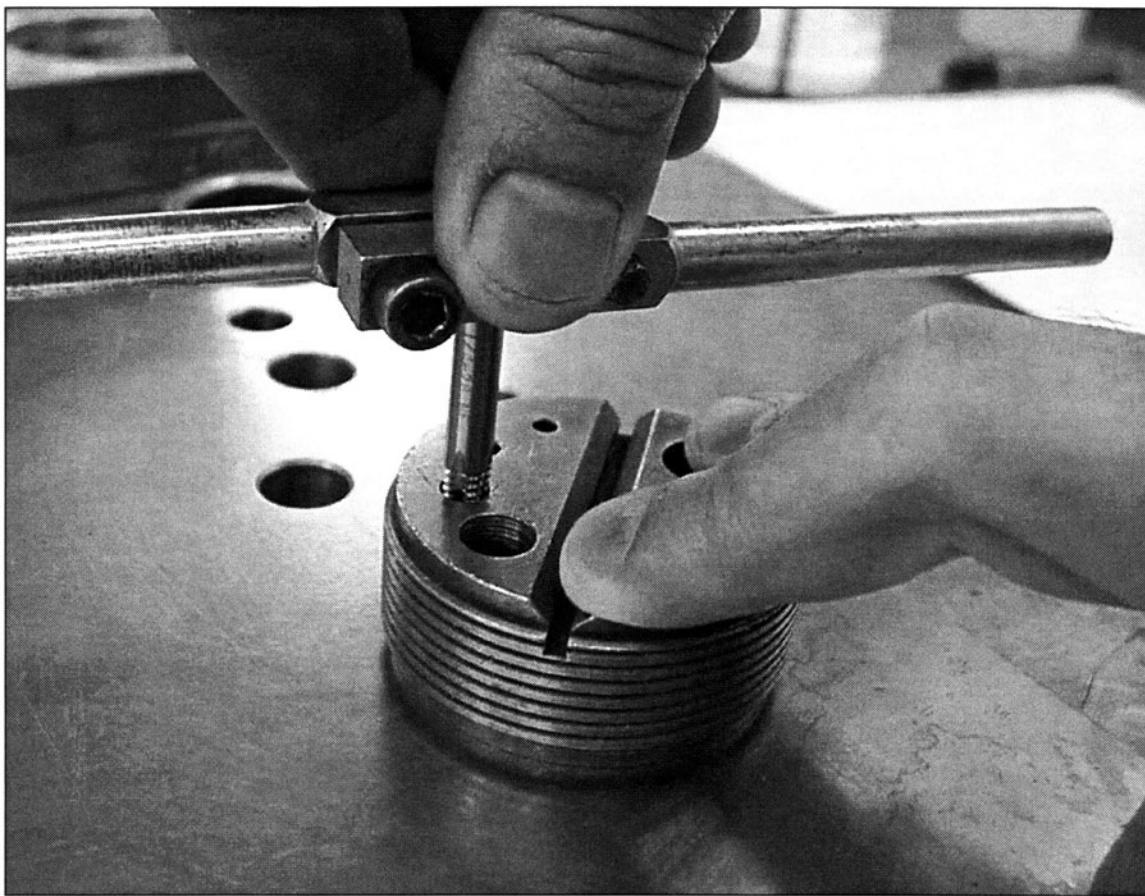

FIGURE 8-8 A tapping block is used to line up a tap for hand tapping.
14. Use a tapping block to guide taps when hand tapping. (See Fig. 8-8)